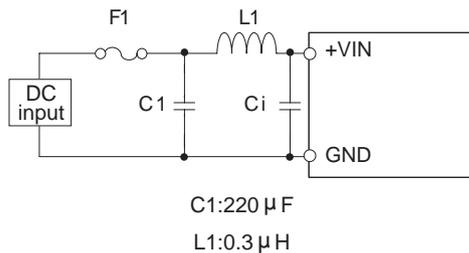

Fig.3.1 Example of recommended external input filter
(3) Recommendation for noise-filter
■ Install an external input filter as shown in Fig.3.1 in order to reduce conducted noise.  $C_{in}$  is shown in Table 3.1.